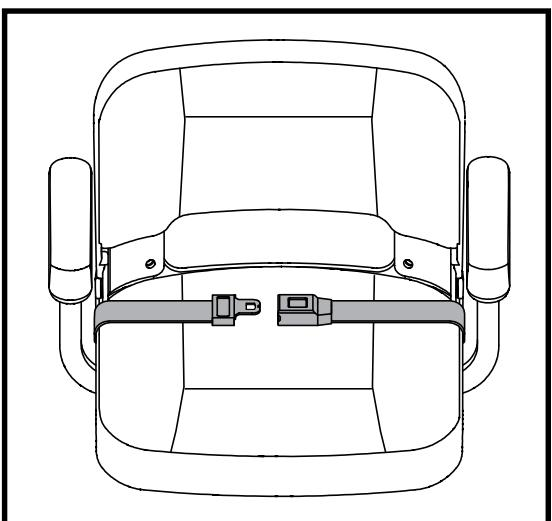

Figure 16. Positioning Belt - Metal Tab Style
1. Insert the metal tab on the right side of the belt into the plastic housing on the opposite strap until you hear a “click.” See **figure 16**.